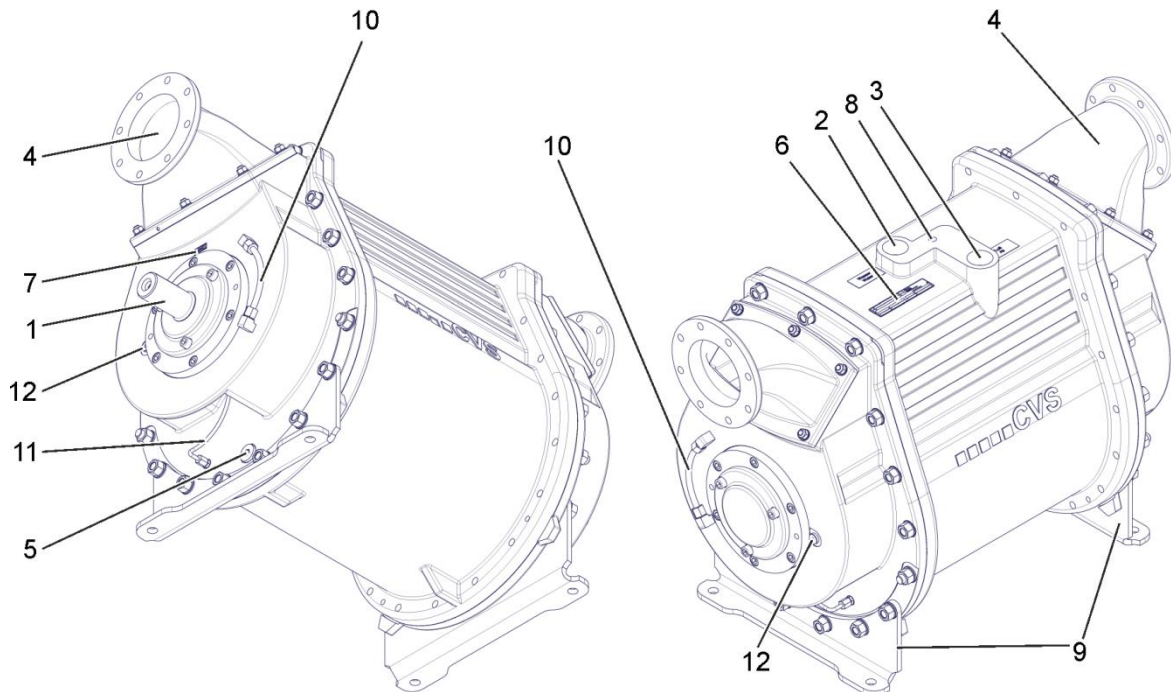

Fig. 1: Design
See page 19, Fig. 1, pos. 8
See rotation arrow page 19, Fig. 1, pos. 7.
- Fill process water directly at the VacuStar WR up to half full (half shaft) (see page 19, Fig. 1, pos.10 "Process water indicator"). The water stop valves in the process water inlets avoid filling the VacuStar WR from the process water reservoir.
- Before the unit is started, the liquid ring pump must always be approximately half full (shaft centre) with liquid. (see page 19, Fig. 1, pos. 10)